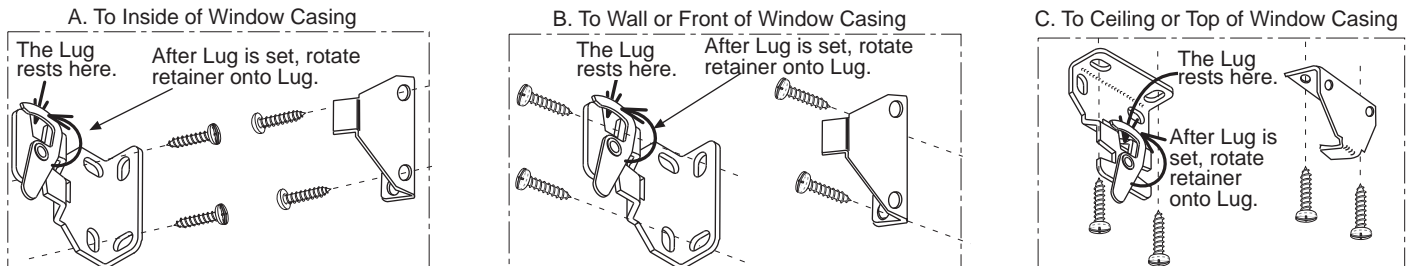

Figure 7. Install Brackets
Step 5. At the job site, install the brackets on the window casing according to Fig. 5. If brackets are going to be mounted inside the casing, try to position them as close to the window as possible yet have enough space for the roller shade when completely rolled up. If the clutch is on the right end of the shade, attach the brackets to the window casing, wall, or ceiling, as shown in Fig. 7. If the clutch is on the left end of the shade, reverse the brackets, left and right.
Step 7. To install, push shade clutch straight onto the blade of its bracket. The bottom of the clutch should always point straight down. Lower the lug of the end plug onto the "V" of its bracket. The roller should fit in the brackets securely, with just a little play. Rotate the riveted retainer portion to lock the lug in position (See Figures 7 and 8).